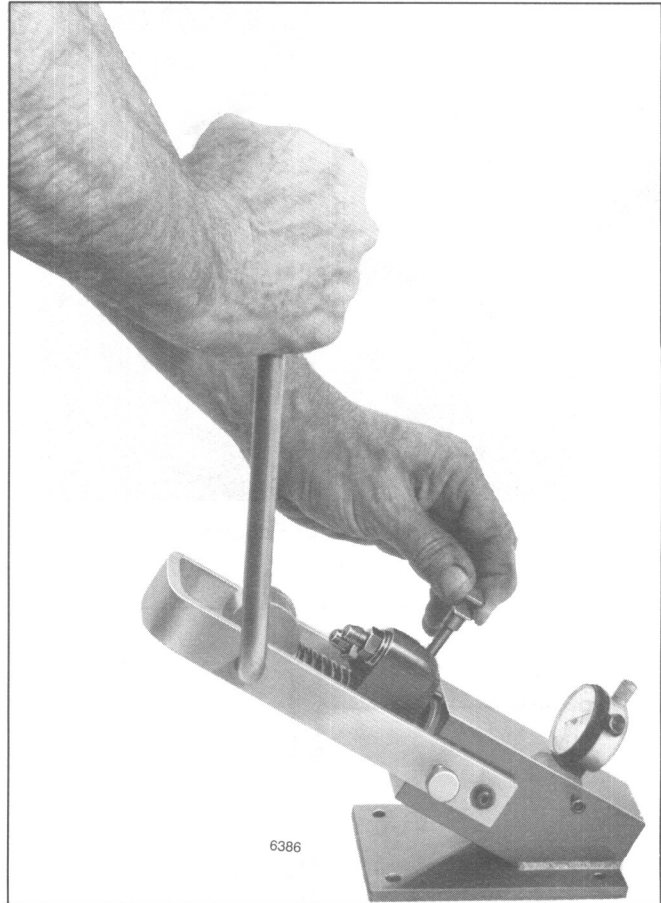

Fig. 36 – Checking Rack for Freeness in Tester J 29584
Place the injector in Tester J 29584 (Fig. 36) and check rack freeness.
- Place the injector in Tester J 29584 (Fig. 36) and adjust the dial indicator to zero.